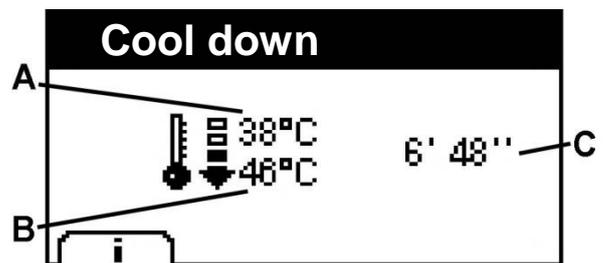

Fig. 4.5
- When the dryer enters the **cooling phase** the programmed cooling temperature is displayed (Fig. 4.5/A), the internal temperature of the machine (Fig. 4.5/B), as well as the time remaining until the end of the cooling phase (Fig. 4.5/C).